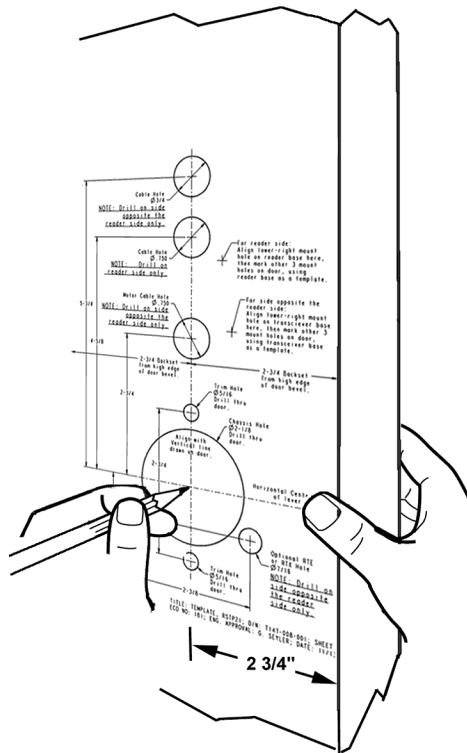

Figure 2-16 – Template, RSTP21, on Metal Door
Align the edge of the Template to be parallel with the edge of the door (Figure 2-16). The edge of the door maybe beveled, so the edge of the template may not line up exactly with the door edge, just make certain it is parallel to it.
- 2.5.1.3.5 Center punch the center points of the holes (Figure 2-16).